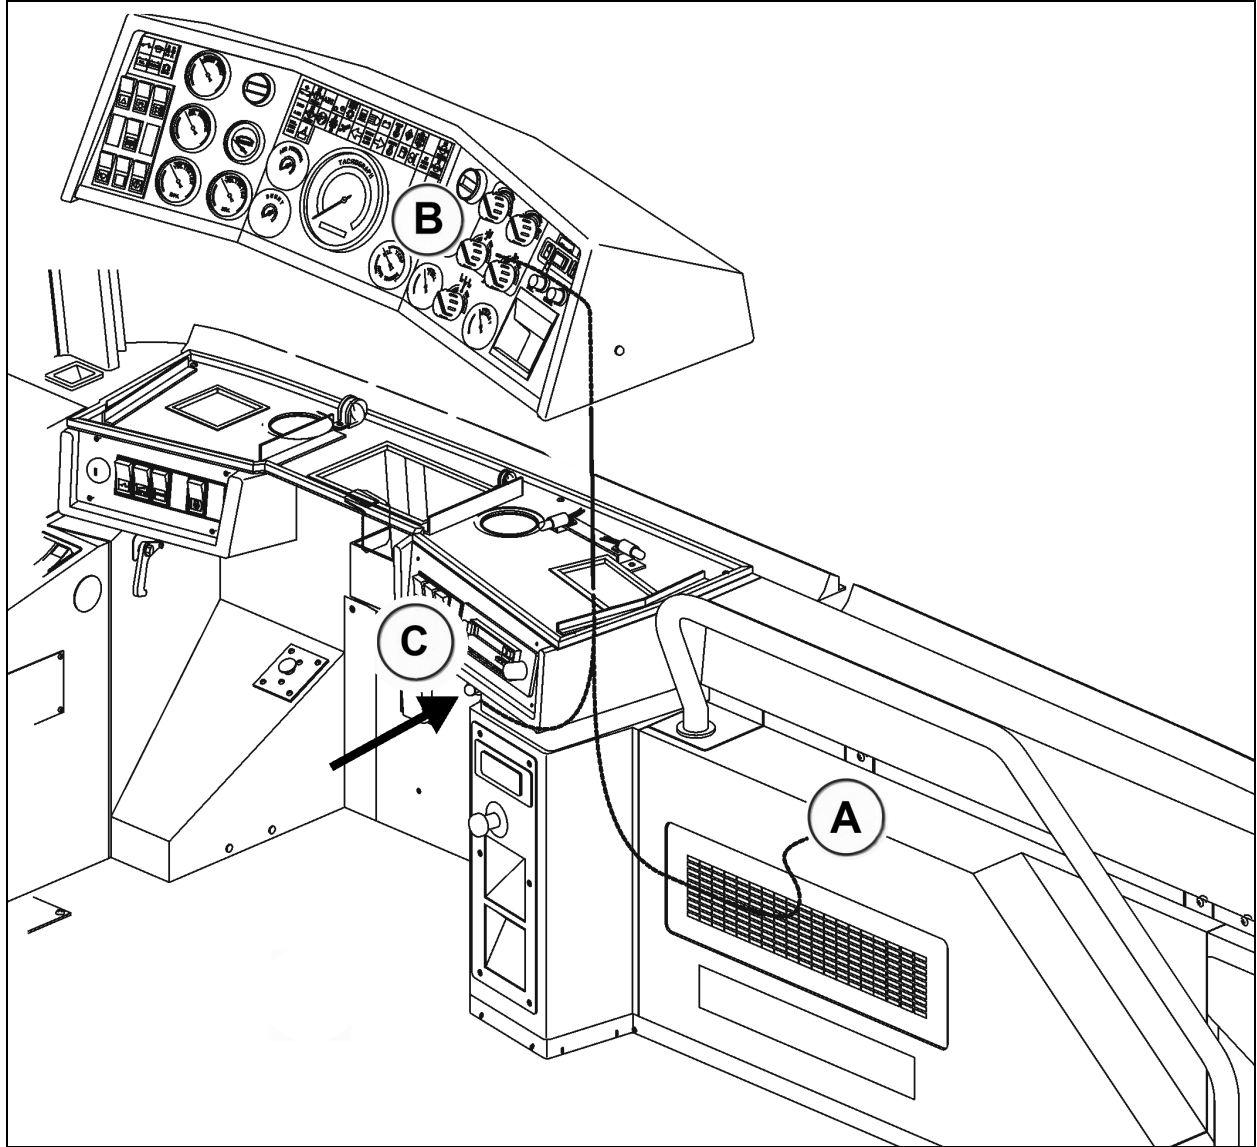

Figure 1 : Overview
The procedure replaces the existing thermostat control (A) with a new potentiometer (B) and a sensor (C) (Fig 1 & 2). The harness will connect to the existing connectors on vehicle side without modification to vehicle side harness.